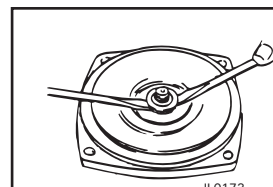

Figure 6 - Remove Mechanical Seal
- Remove the four (4) pump through bolts that connect the mounting ring to the pump body. Remove the pump body, taking care not to damage the gasket or o-ring.
- Remove the mechanical seal assembly. The rotary portion of the seal assembly (carbon ring, Buna-N gasket and spring) will easily slide off the end of the shaft. The ceramic portion can be pried out of the rubber seating using two (2) screwdrivers (see Fig. 6).